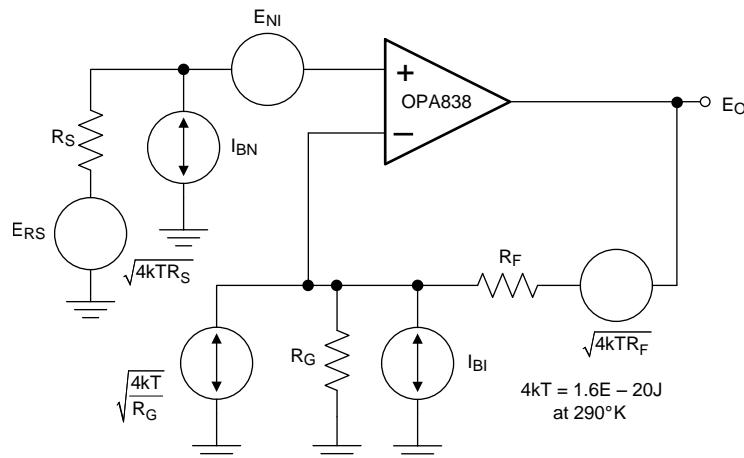
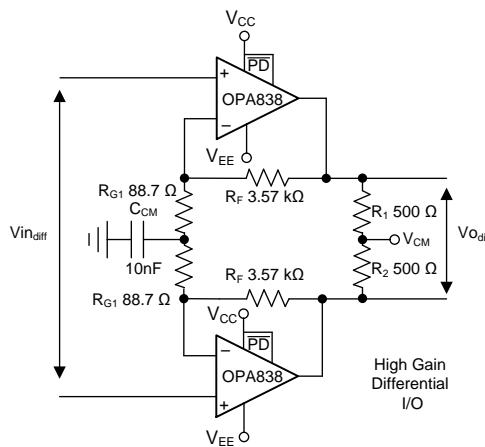
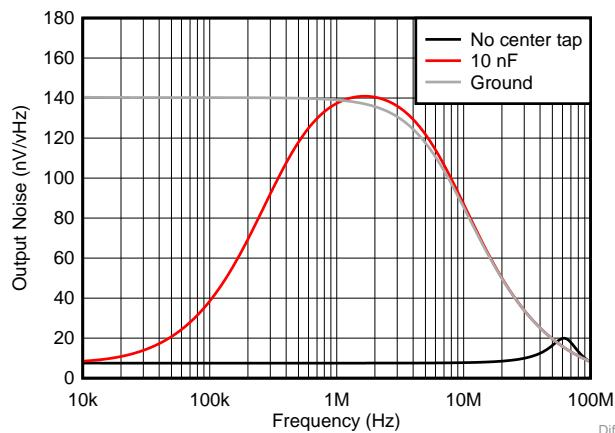

图 76. Op Amp Noise Analysis Model
图 77. High-Gain Differential I/O Stage
图 78. Common-Mode Output Noise for Differential I/O Design
The uncompensated voltage feedback of the OPA838 op amp offers among the lowest input voltage and current noise terms for any device with a supply current less than 1 mA. 图 76 shows the op amp noise analysis model that includes all noise terms. In this model, all the noise terms are shown as noise voltage or current density terms in $\text{nV}/\sqrt{\text{Hz}}$ or $\text{pA}/\sqrt{\text{Hz}}$.
The total output spot noise voltage is computed as the square root of the squared contributing terms to the output noise voltage. This computation is adding all the contributing noise powers at the output by superposition, then taking the square root to return to a spot noise voltage. 公式 3 shows the general form for this output noise voltage using the terms presented in 图 76.
A high-gain differential-to-differential I/O circuit can be used to drive a second-stage FDA or a differential-to-single-ended stage. This circuit is frequently used in applications where high input impedance is required (for example, if the source cannot be loaded). 图 76 illustrates an example design where the differential gain is 41 V/V. An added element between the two R_G resistors increases the noise gain for the common-mode feedback. It is important to provision for the added element because a decompensated VFA (like the OPA838) often oscillates without it in this circuit. With only the R_G elements in the differential I/O design, the common-mode feedback is unity-gain and often causes high-frequency, common-mode oscillations. To resolve this issue, split the R_G elements in half and add a low-impedance path such as a capacitor or a DC reference between the two R_G values.
As an example design, start with the circuit in 图 77.
- Assess the DC common-mode biasing on the noninverting inputs. The DC biasing must be in range and have a gain of 1 to the output. This is not illustrated in 图 76.
- If a DC reference is used as the mid- R_G bias, setting the reference equal to the noninverting input bias voltage sets the output common-mode to that voltage. Using a capacitor as illustrated in 图 76 accomplishes the same results.
- Set the total R_G value near the high gain values using 表 1. This $178\text{-}\Omega$ total must be split for a center tap to increase the common-mode noise gain, as shown by the $88.7\text{-}\Omega$ value in 图 77.
- Simulate the common-mode noise with different elements on the R_G center tap, as shown in 图 78. Decide which is most appropriate to the application.
The common-mode loop instability without the R_G center tap is not often apparent in the closed-loop differential simulations. It can often be detected in a common-mode output noise simulation as 图 78 shows. Grounding the inputs 图 77 and running a output noise simulation for the common-mode tap point in 图 76 shows a peaking in the noise at high frequency. This peaking indicates low-phase margin for the common-mode loop. 图 78 shows this peaking in the lowest noise curve, with two options for improving phase margin. The first option used in 图 77 is a capacitor to ground set to increase the common-mode noise gain only at higher frequencies. This can be seen by the peaking in the common-mode noise of 图 78. Another alternative is to provide a DC voltage reference on the R_G center tap. This raises the common-mode noise gain from DC on up in frequency. Neither of these latter two show any evidence of low phase margin peaking. They do increase the output common-mode noise significantly at lower frequencies. Typically, an increase in output common-mode noise is more acceptable than low-phase margin as the next stage (FDA, ADC, differential to single stage) rejects common-mode noise.